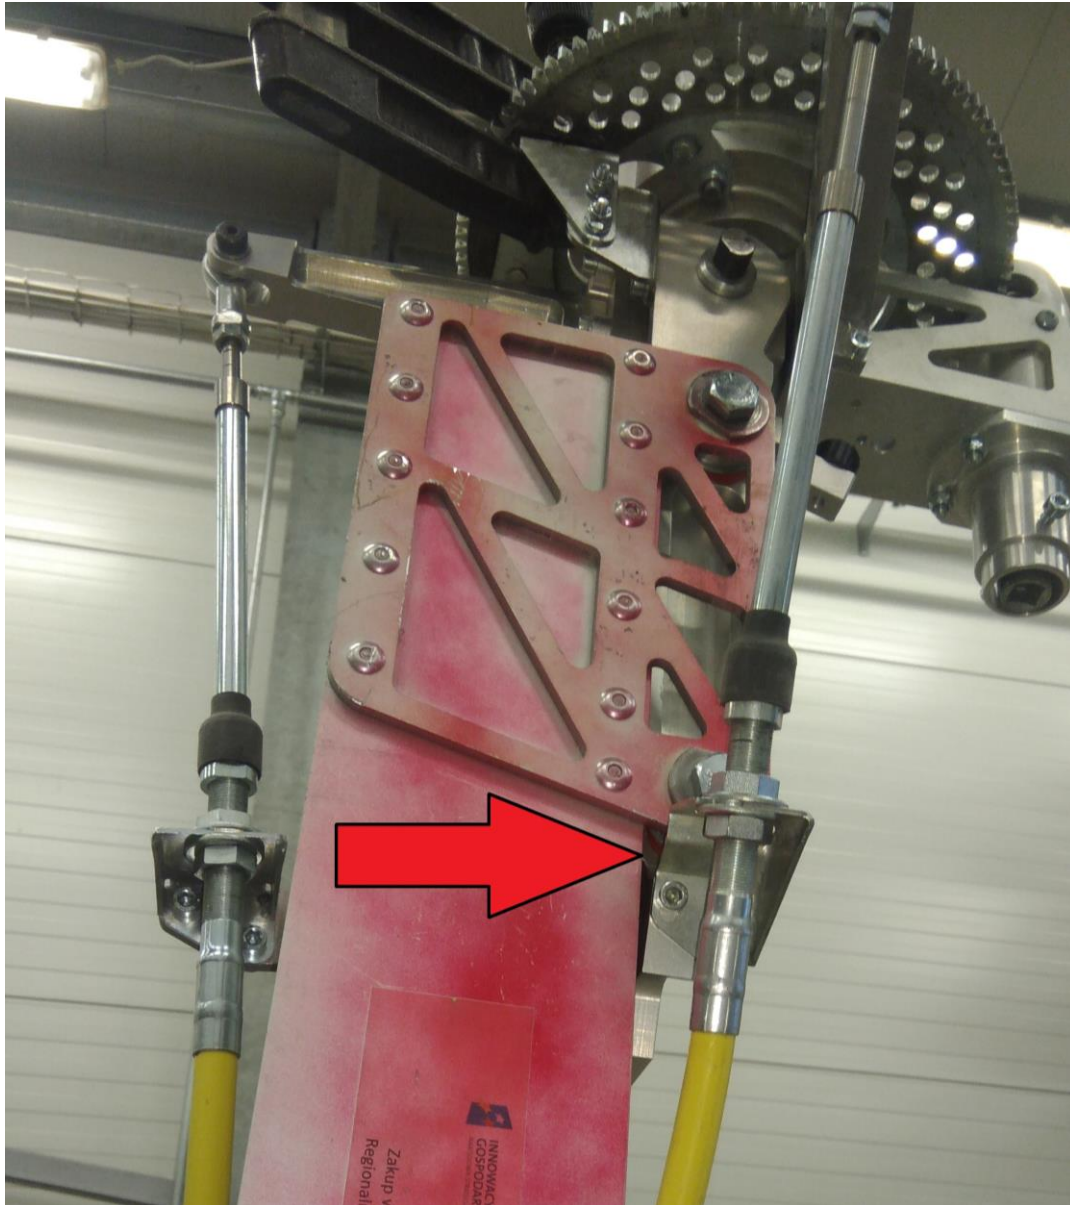
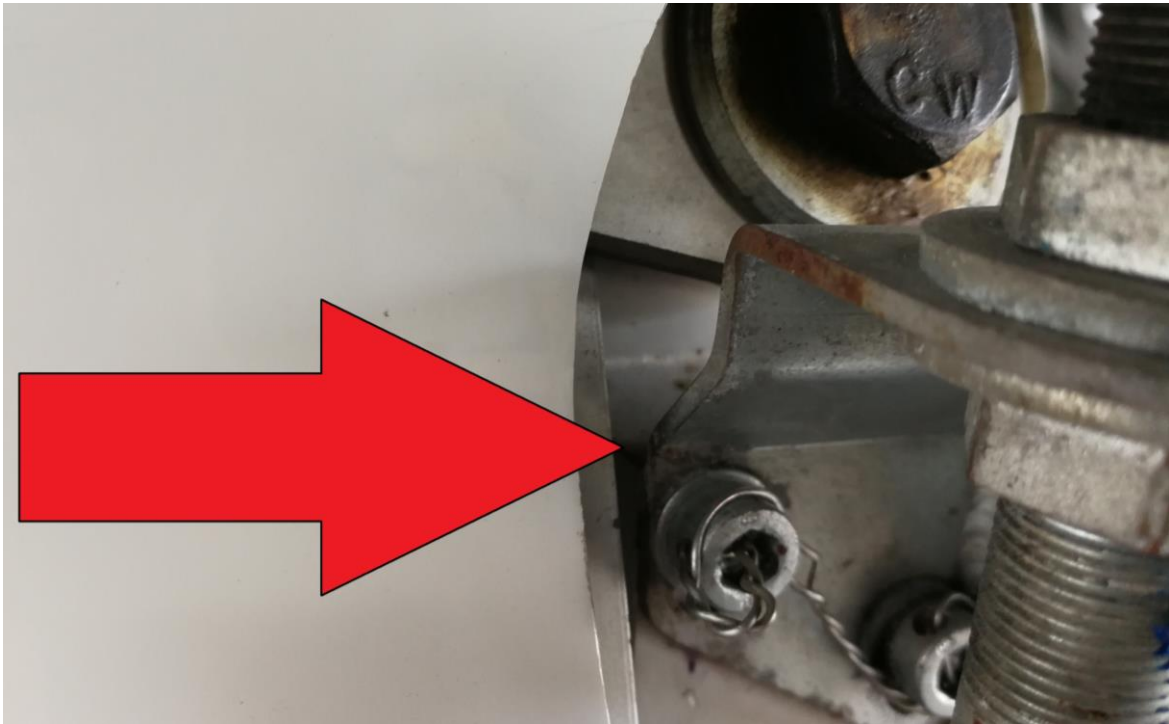

Fig. 1
Fig. 2
- 1) Check the holder in gyrocopter. Holder to be replacement is shown on pictures below [Fig. 1] and [Fig. 2].